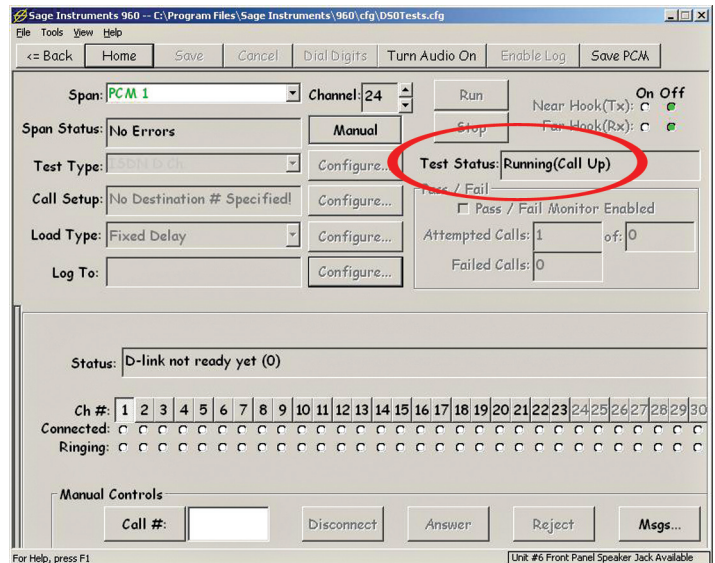

Figure 2.2.5
7. To monitor the ISDN D Channel test in progress, double click on channel 24 to return to the main test screen. Notice that the ISDN D Ch. test is now selected in the test pull down menu and the test status is “Running” (see figure 2.2.5).